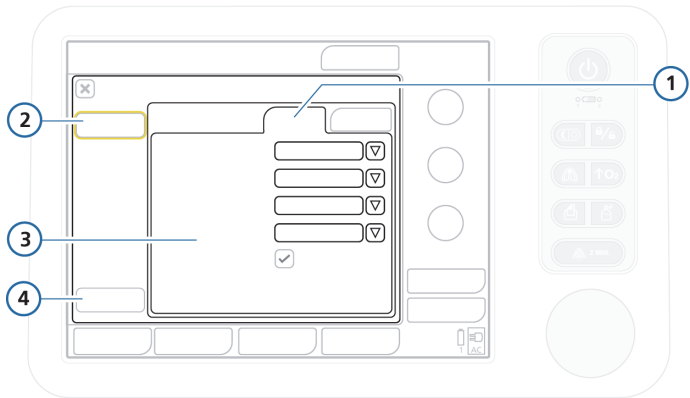

Figure J-16. Sensor data settings
1. Open the Configuration window, and touch the **Sensors** button (Figure J-16).